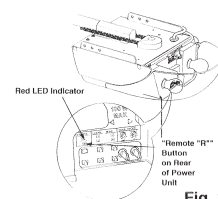

Fig. 1
- 4 Press and release the Remote "R" button located on the rear of the power unit. The red LED indicator above the Remote "R" button and lights on the power unit will come on, indicating the power unit is now in the LEARN mode. See Figure 1.